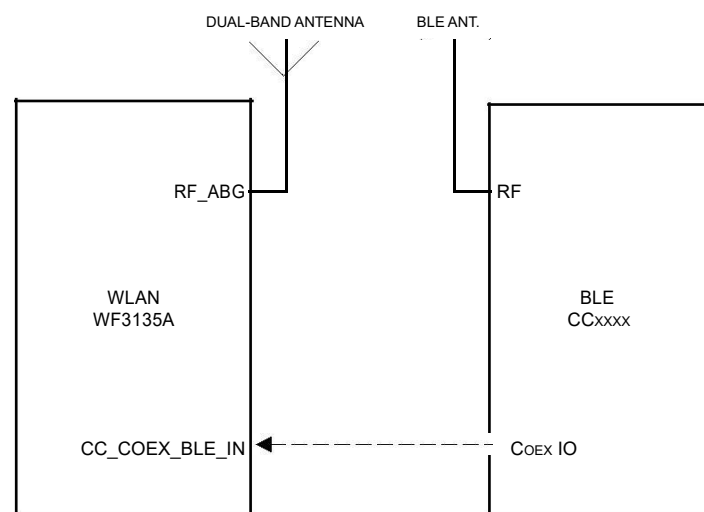

Figure 16. Dual-Antenna Coexistence Mode Block Diagram
- Dual-band Wi-Fi (see Figure 16)
Figure 16 shows the dual antenna implementation of a complete Bluetooth[®] low energy and WLAN coexistence network with the WLAN operating on either a 2.4- or a 5 GHz band. Note in this implementation no Coex switch is required and only a single GPIO from the BLE device to the WF3135A device is required.